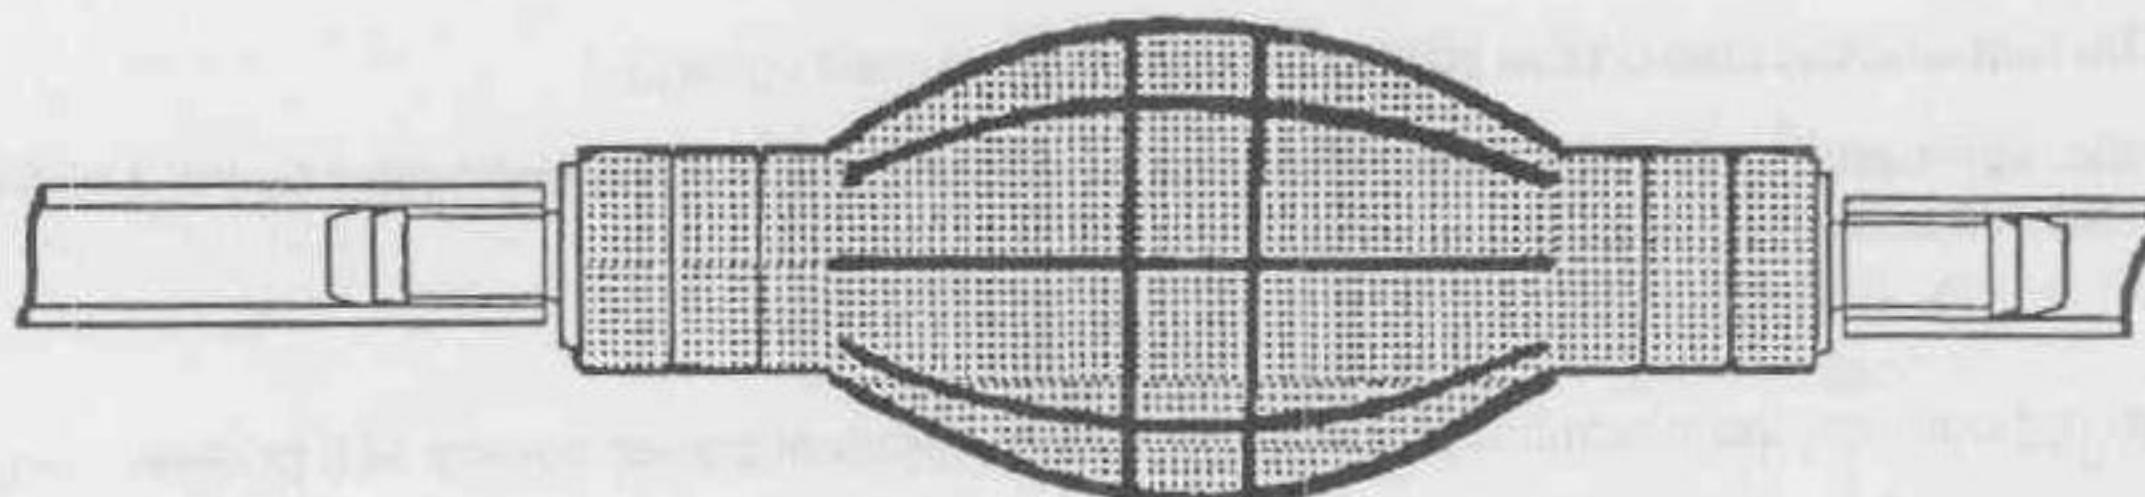

Figure 2-16. Primer bulb
d. *Primer bulb* (fig 2-16). The primer bulb is in line with the outlet hose and is used to prime the pump in the control box. Squeezing the bulb several times while depressing the foot pedal draws water from the potable water can through the inlet hose to the control box. The water continues to be drawn through the pump and heater and then through the outlet hose assembly to the faucet. Discontinue priming when air bubbles are no longer visible in the water moving through the outlet hose.